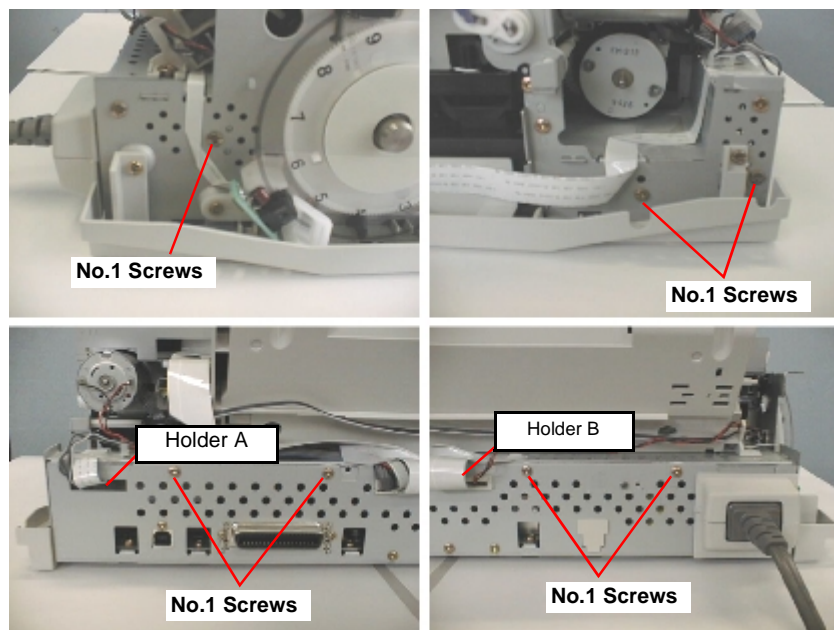

Figure 4-3. Removing the M/B Shield Plate
- 2) Remove the 7 screws (No.1) securing the M/B Shield Plate on the printer mechanism. Refer to Figure 4-3.
- 3) Pull out the "M/B Shield Plate Assembly" a little bit and remove cables which are hung on the holders A and B as you can see in Figure 4-3. Then take all cables below out of the connectors on the main board.